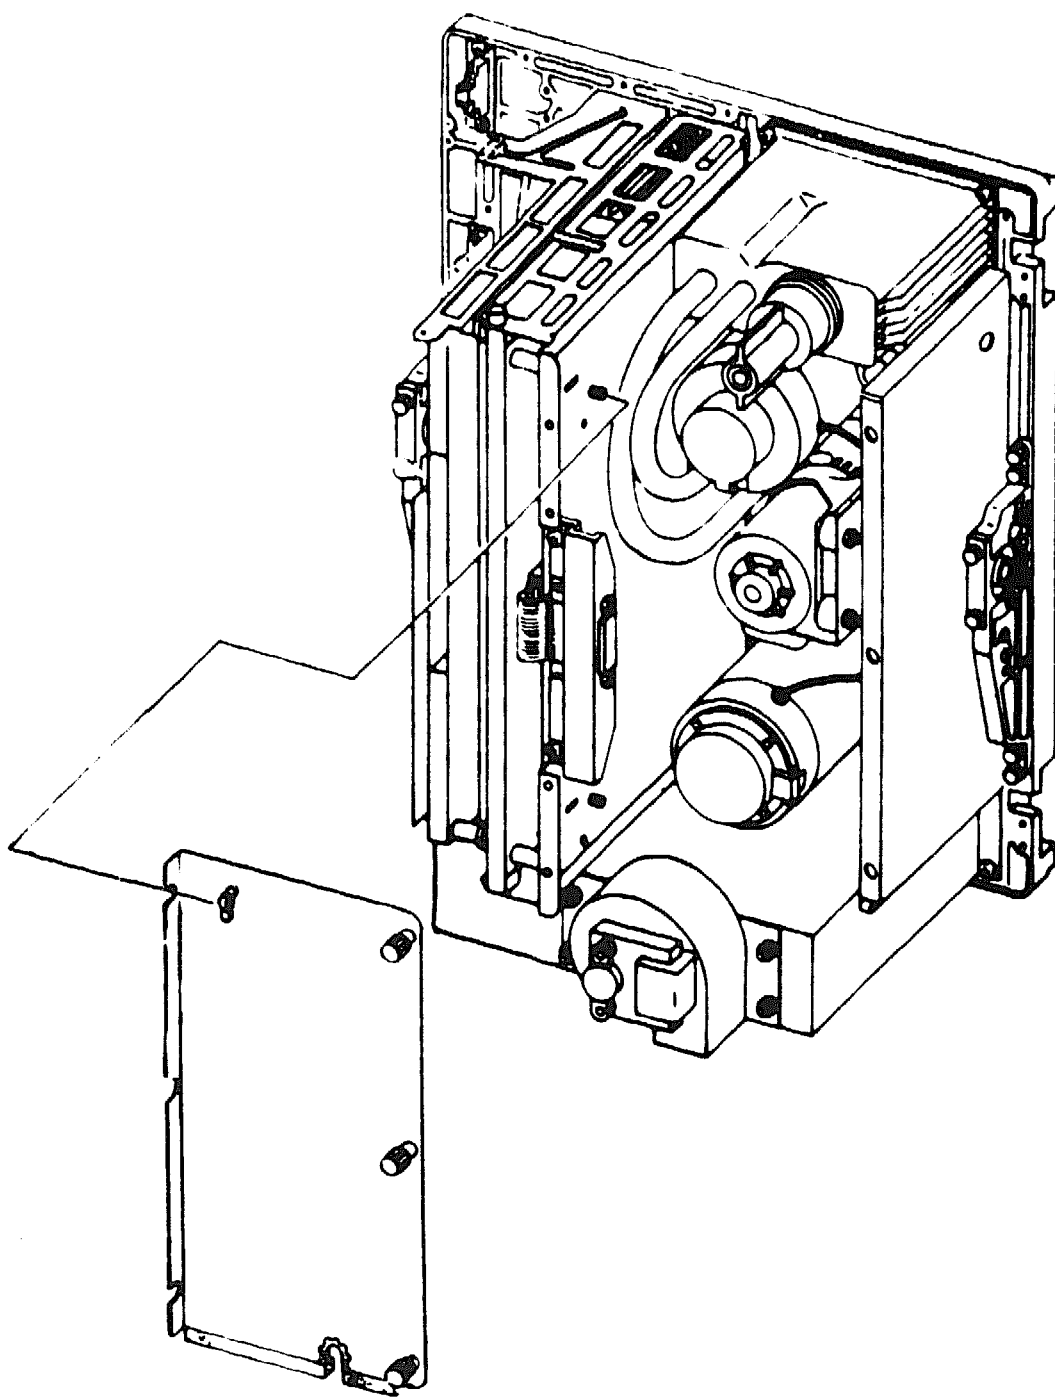

Figure 5-3. DRIVE COVER
2. Loosen the nuts and the screws securing the cover and remove the drive cover assembly (Figure 5-3). (The drive cover assembly consists of the drive cover with attached foam strips and grommet.)